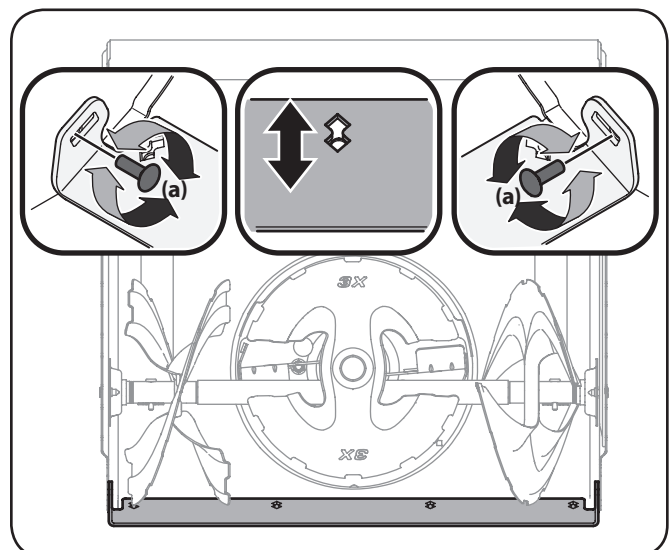

Figure 6-3
4. Slide the shave plate downward into the second position. Reinstall and tighten all bolts securely. See Figure 6-3.